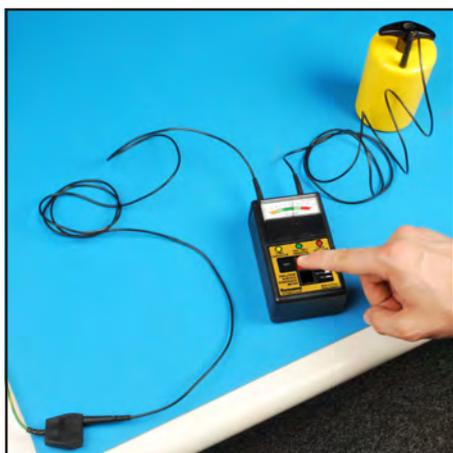

Figure 3. Using the test leads and one 5 pound electrode to measure Rg
5. Set the Test Voltage Button to AUTO. Press and hold the the TEST button until the measurement is displayed (see Figure 3).